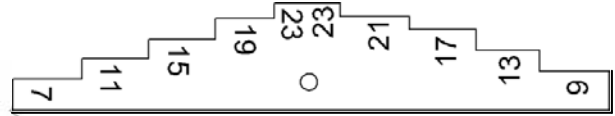

FIGURE 12, Calibration Gauge
- Open the Hopper and using the Calibration Gage (Figure 12) provided with the machine as shown in Figure 13, set the center hole opening to 16. Position the Rate Adjustment Knob against